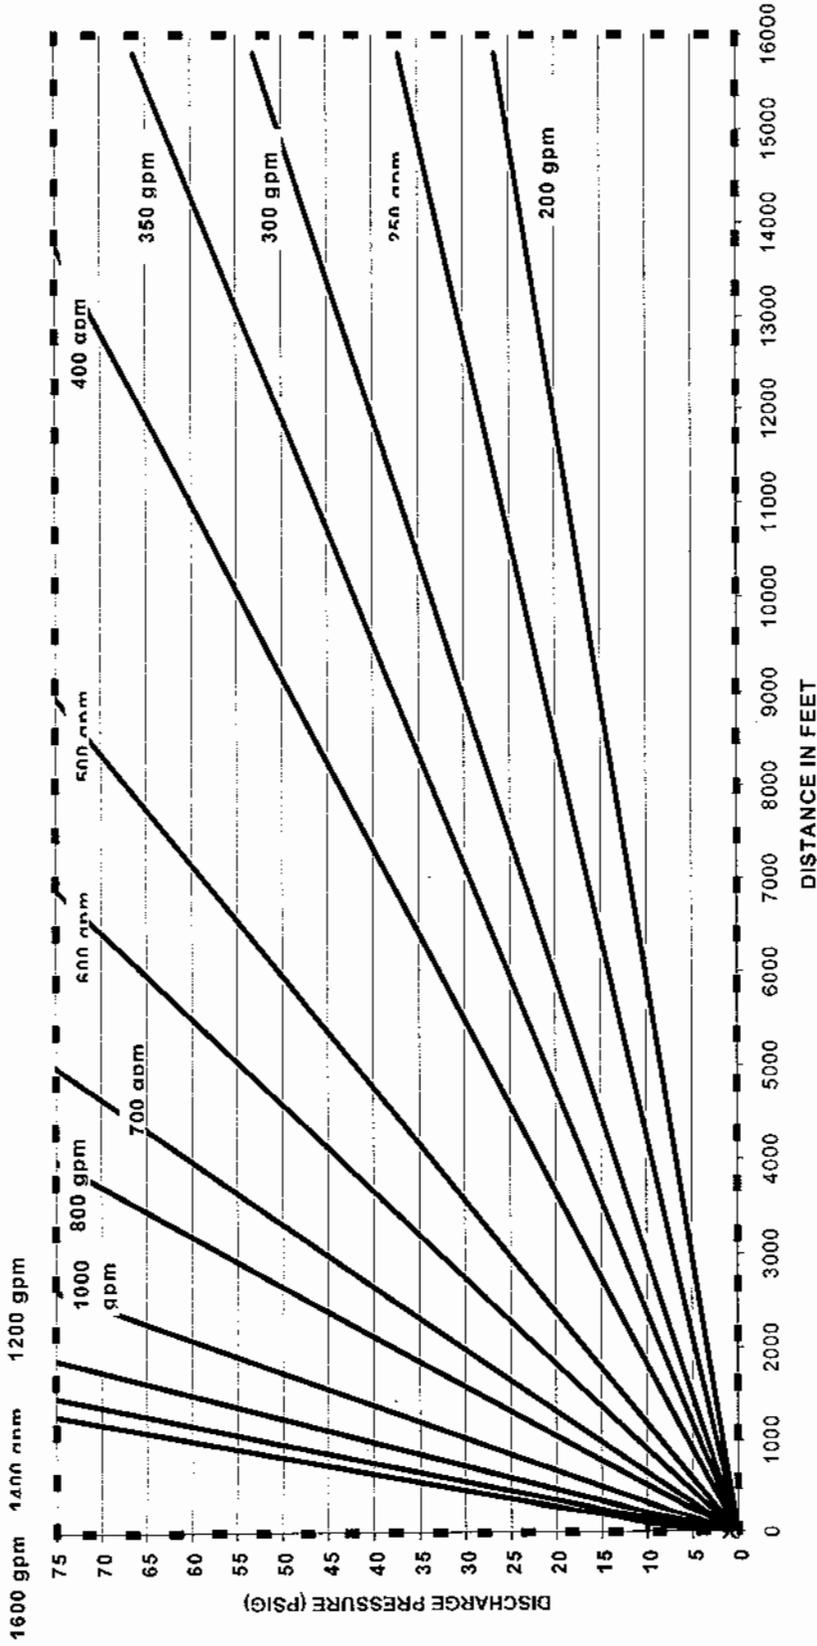

Figure D-10. USN CCN-150 POL Pump Diesel Fuel Pumping Range Via 6 Inch Hose.
- Figure D-10 USN CCN-150 POL Pump Diesel Fuel Pumping Range Via 6 Inch Hose